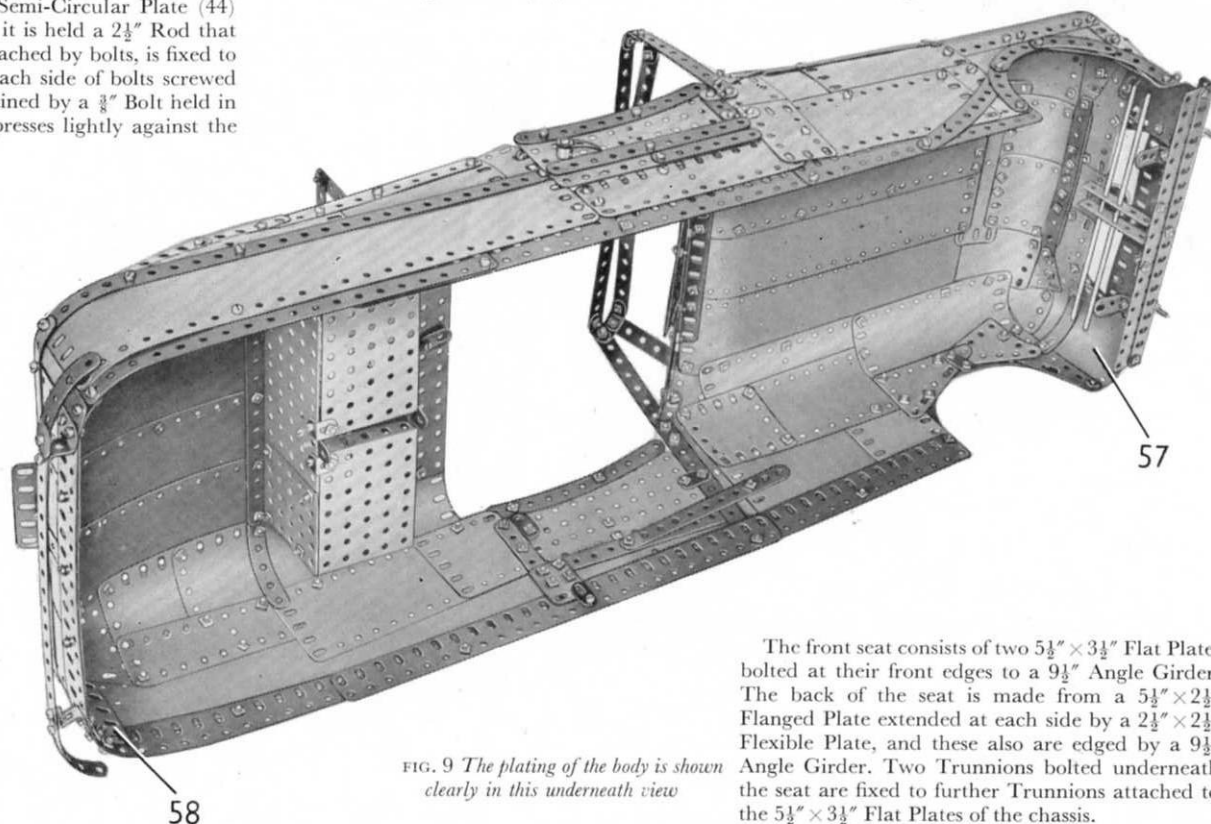

FIG. 9 The plating of the body is shown clearly in this underneath view
attached to the front by Angle Brackets, and this supports a  $9\frac{1}{2}''$  Angle Girder that forms the front bumper. The Plates (57) are extended upward by  $5\frac{1}{2}'' \times 1\frac{1}{2}''$  Flexible Plates, which are joined at their inner ends to a  $2\frac{1}{2}'' \times 1\frac{1}{2}''$  Flexible Plate. The inner edges of the Plates (57) and the  $5\frac{1}{2}'' \times 1\frac{1}{2}''$  Flexible Plates are strengthened by two  $2\frac{1}{2}''$  Curved Strips and a  $5\frac{1}{2}''$  Curved Strip. Two  $8''$  Rods are held by Spring Clips in  $2\frac{1}{2}''$  Angle Girders bolted vertically to the front (see Fig. 9).